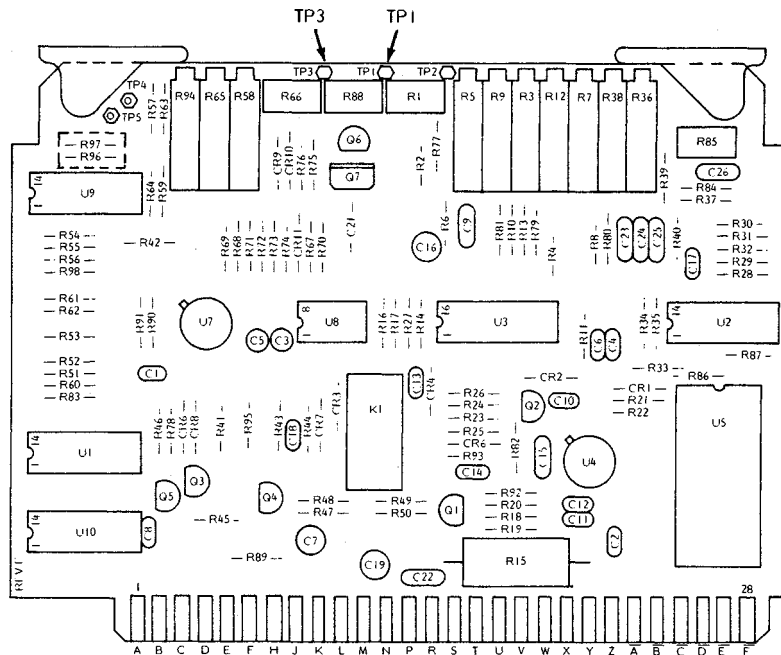

Figure 5-20A. A6 PCB RF Amplifier Bias Adjustment, Models 6609A-50, 6617A-40, 6621A-40, 6637A-40, and 6647A-40
- c. Connect the multimeter leads between TP1 (-) and TP3 (+) (Figure 5-20A).
b. Add Figure 5-20A, below.